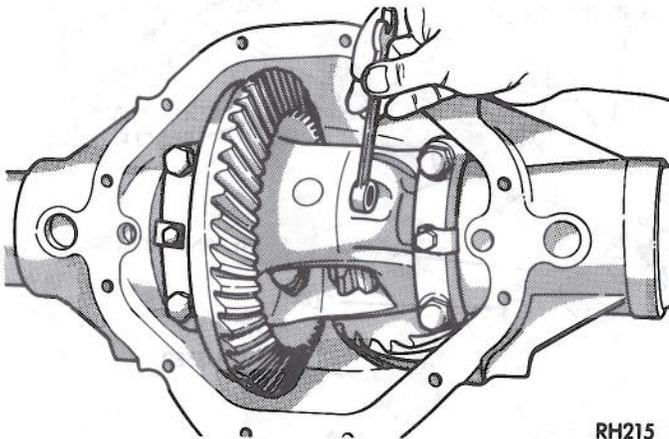

Fig. 3—Removal or Installation of Differential Pinion Shaft Lock Pin
(4) Turn differential case to make differential pinion shaft lock screw accessible and remove lock screw and pinion shaft (Fig. 3).